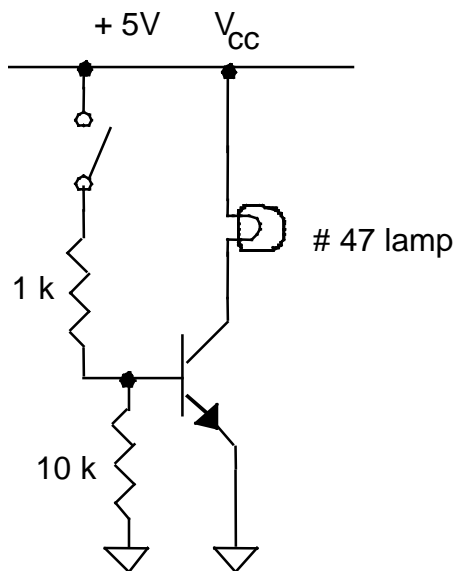

Figure 4-9. Cold switching
* Using the + 5 Volt power supply that is built into your prototyping board, wire up an NPN transistor as a “cold switch”, as shown in Figure 4-9. The lamp is the “load” here. (The 10 k resistor is not essential-- it makes sure that the base is near ground potential when the switch is open.)